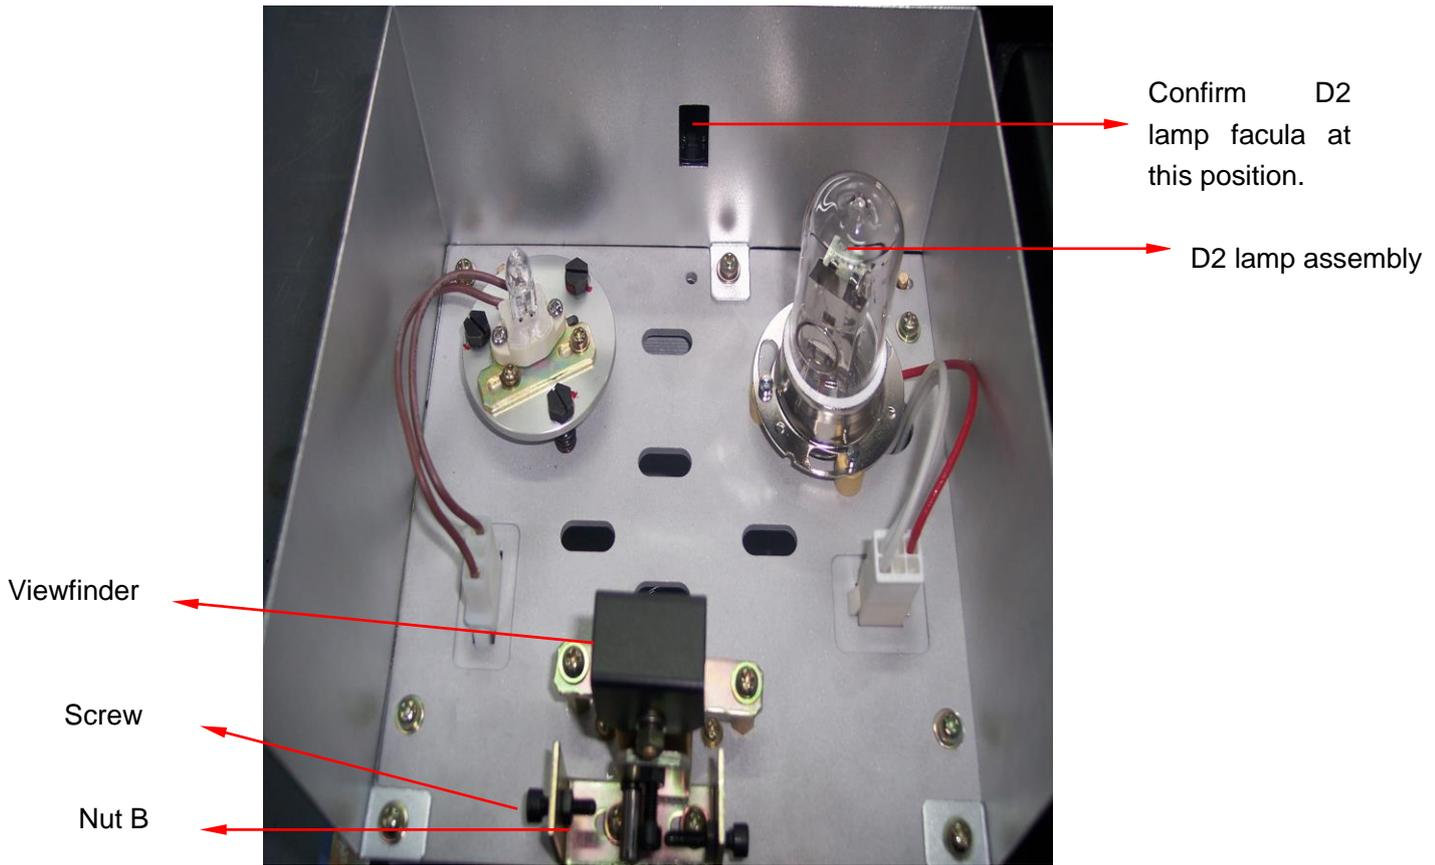
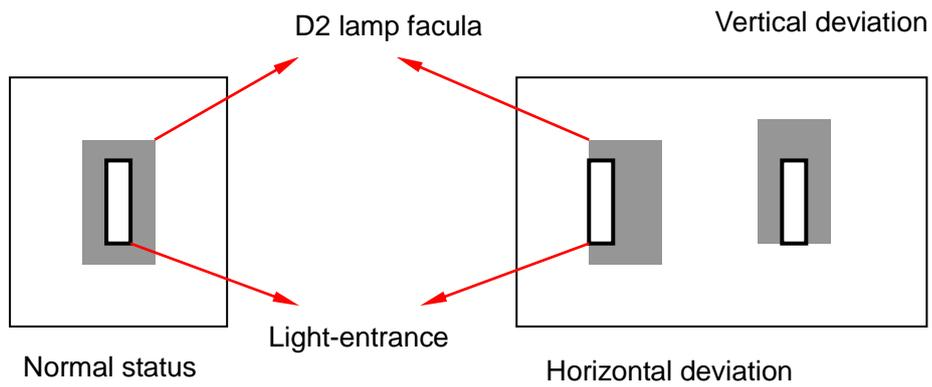

Figure 4-18 Replacement and adjustment of D2 Lamp
Figure 4-19 Relative position of D2 lamp facula and light-entrance slit
B) The adjustment of D2 lamp position are as follows: (Refer to Figure 4-18~ Figure 4-19)
(1) Turn off WI lamp.
(2) Set wavelength below 300nm, and set 2nm slit.